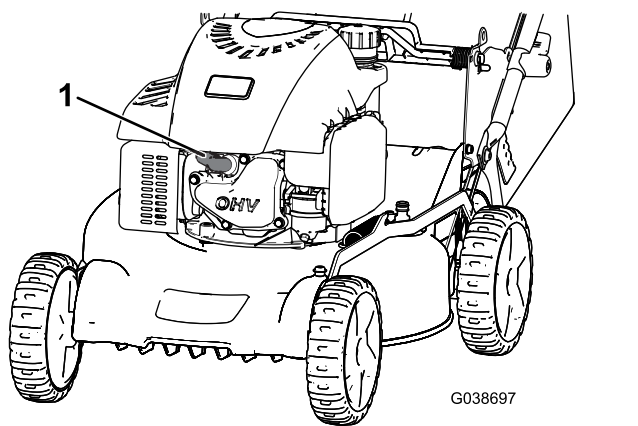

Figure 24
- Disconnect the spark-plug wire from the spark plug (Figure 24).
2. Disconnect the wire from the spark plug (Figure 24).